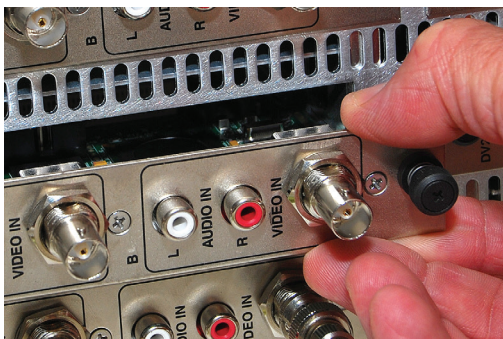

Figure 13-6: Release Screws on Both Card Ends and Gently Pull Card Out
3. Gently slide the card out of the slot. See Figure 13-6.